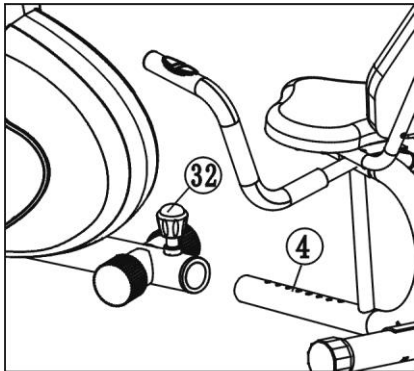

Figure8
Release and pull the Round knob (32) and then insert the Seat cushion adjustor (4) into the tube of Main Frame (30). Adjust the Seat cushion adjustor tubing(4) to the desired hole for the appropriate position and tighten the Round knob (32) after adjustment. (See figure 8)